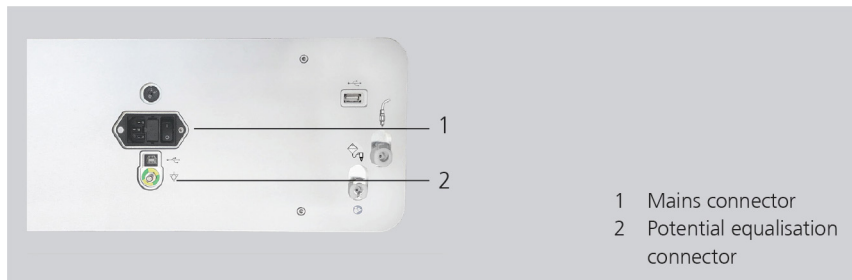

Fig. 4-12 Connecting the electrical power supply
- Connect one end of the potential equalisation cable to the PE connector of the device (Fig. 4-12/2) and the other end to your PE connection.